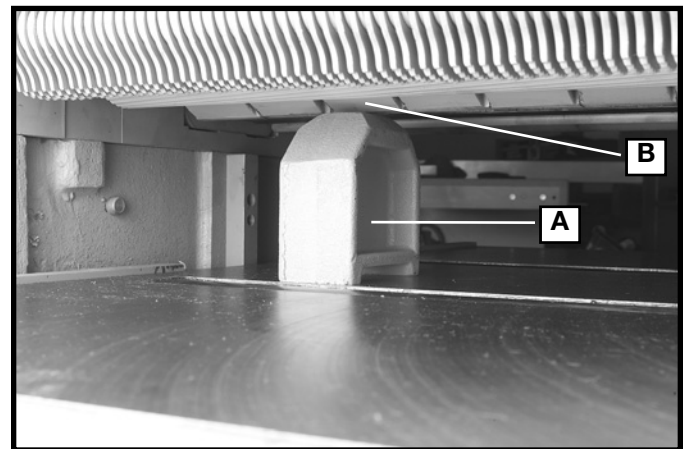

Fig. 30
5. Move the guage block (A) Fig. 30, underneath each chipbreaker segment (B) as shown. The bottom of each chipbreaker segment should just touch the top of the guage block.